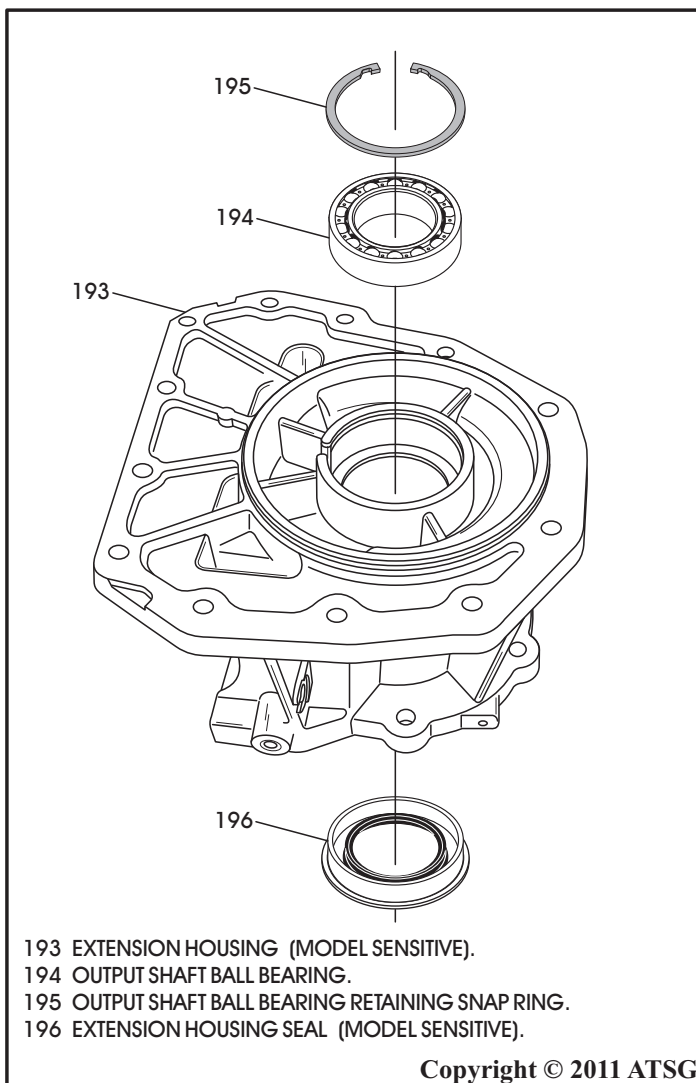

Figure 58
1. Install new extension housing seal, as shown in Figure 58, using the proper seal driver.
2. Install new output shaft ball bearing assembly as necessary, as shown in Figure 58.
3. Install the ball bearing retaining snap ring, as shown in Figure 58.